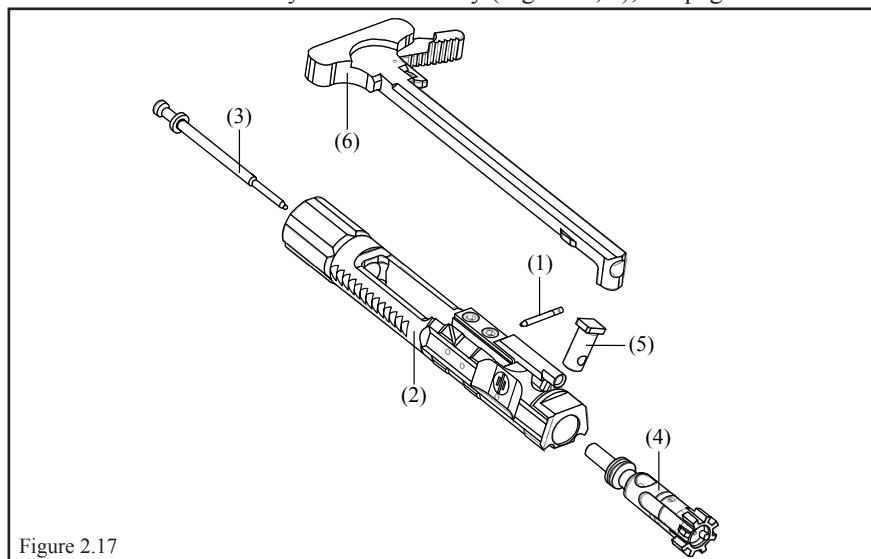

Figure 2.17
1. Remove firing pin retaining pin (Fig. 2.17, 1). Tilt BCG (2) and catch firing pin (3) as it drops out.
2. Push bolt (Fig. 2.17, 4) to rear and lift bolt cam pin (5) straight up to remove.
3. Remove bolt (4) from BCG (2). Remove spring (6) from bolt.
4. Slide charging handle (6) forward and off of the operating rod to clean or replace.
For disassembly of bolt assembly (Fig. 2.17, 4), see page 65.